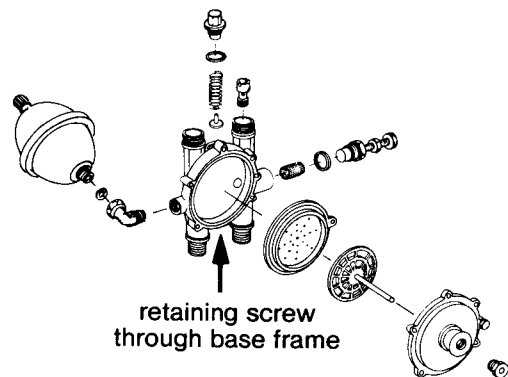

Fig. 47
8.18 Removal of Domestic Hot Water Manifold see fig 47
Remove manifold (fig 47 & 66) gives details of further disassembly.